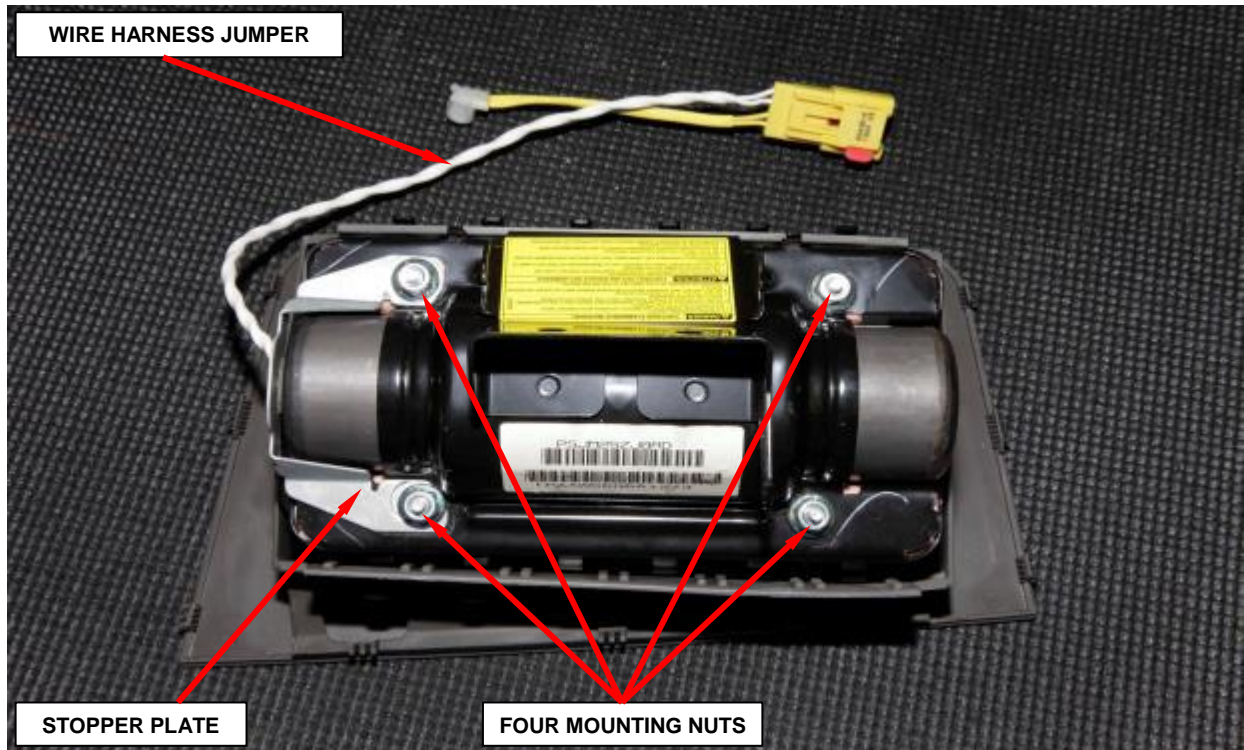

Figure 18 – Mounting Nuts and Stopper Plate
e. Remove and **discard** the four mounting nuts and remove and save the stopper plate from the housing (Figure 18)